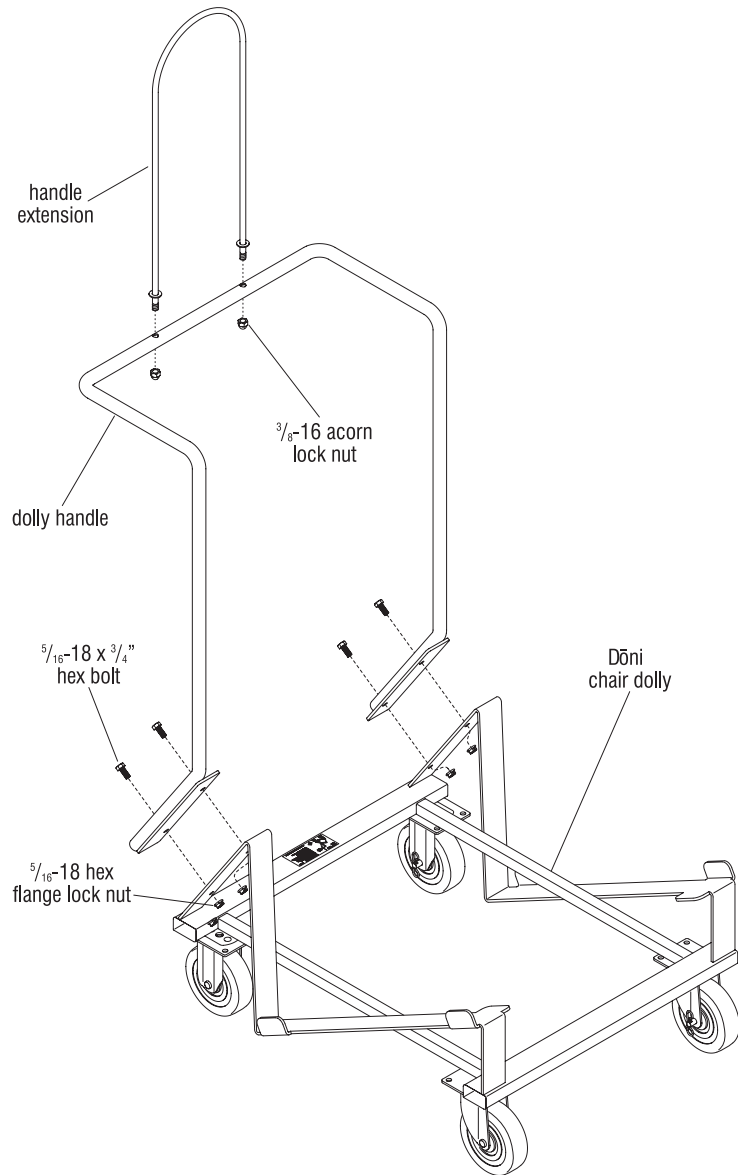

Figure 1
1. Position the dolly handle mounting flanges against the chair dolly mounting locations as illustrated and align four mounting holes. Using four $\frac{5}{16}$ -18 x $\frac{3}{4}$ " hex bolts and hex flange lock nuts, secure the handle to the dolly (Figure 1).
2. Insert the threaded ends of the handle extension through the mounting holes in the top of the dolly handle and secure using two $\frac{3}{8}$ -16 acorn lock nuts (Figure 1).
3. Reference the Dōni Dolly label on the unit for proper use of the dolly (Figure 1).